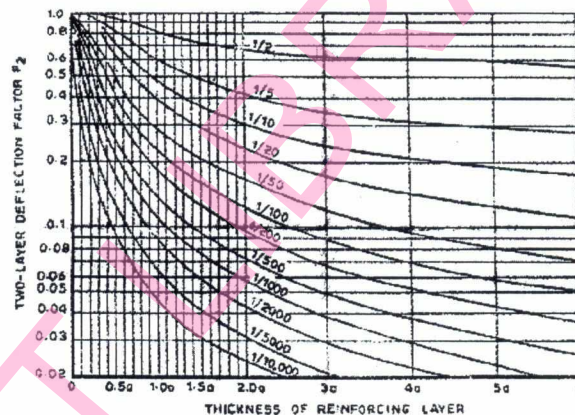

Fig. Q2 (b)
- b. A plate load test conducted with 0.3 m diameter plate on subgrade and on a pavement of thickness 0.4 m sustained pressure of 0.10 MN/m² and 0.40 MN/m² respectively at 5 mm deflection. Design the pavement section for 50 kN wheel load and contact pressure of 0.70 MN/m² for an allowable deflection of 8 mm using Burmisten's approach. If you want to maintain the deflection of 6.5 mm, what would be the required thickness? Use the chart in Fig. Q2 (b). (12 Marks)